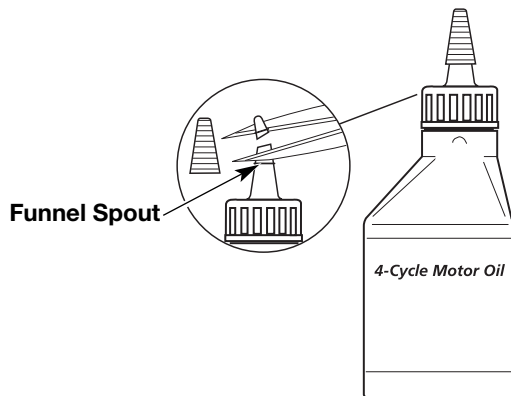

Fig. 16
Your unit is supplied with one 3.0 fl oz (90 ml.) bottle of SAE 30 SF, SG, SH oil (Fig. 16).
1. Unscrew the top of the bottle of oil and remove the paper seal covering the opening. Replace the top. Next, cut the tip off the funnel spout (Fig. 16).